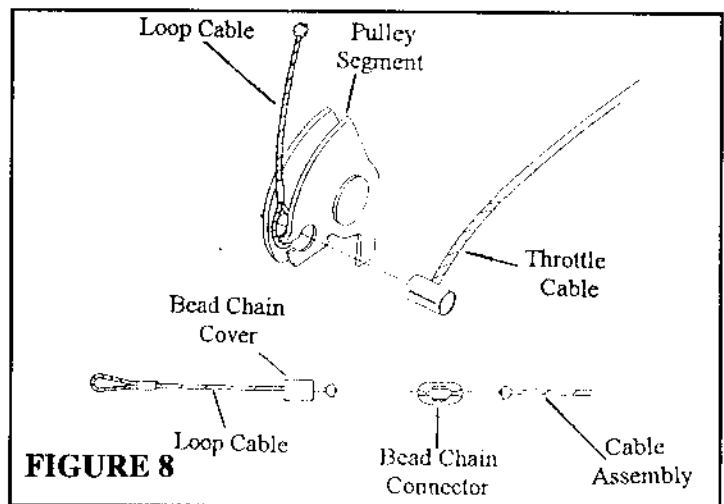

FIGURE 8
3. Hold the **Loop Cable** between the holes in each side of the pulley. Slide the barrel at the end of the throttle cable through the slotted hole, then through the **Loop Cable** and into the second hole. (Figure 8)